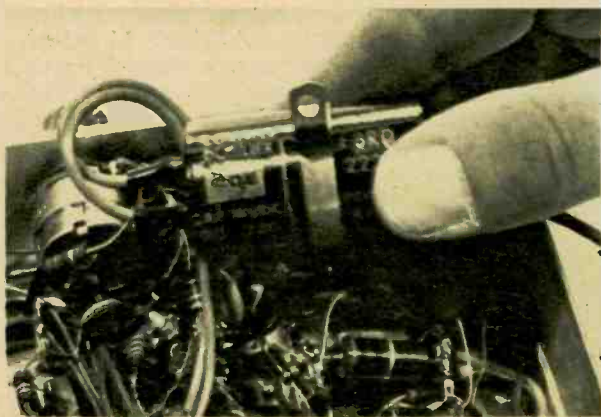

Fig. 2—Constant hum or buzz in the receive mode means a bad filter capacitor. Parallel each filter with a good one until the hum or buzz stops.
Fig. 2—The horizontal-output tube on Philco 11N51 chassis was type with a removable cap. The chassis can be pulled easily for connections to the other test-signal tap-off points underneath.
**Hum of buzz when receiving.** Look for a defective power-supply electrolytic (Fig. 2). If nothing appears to be leaking out of any of them, bridge each electrolytic one at a time with a 20- $\mu$ f, 400-V capacitor. If the hum level drops you have located the defective capacitor.